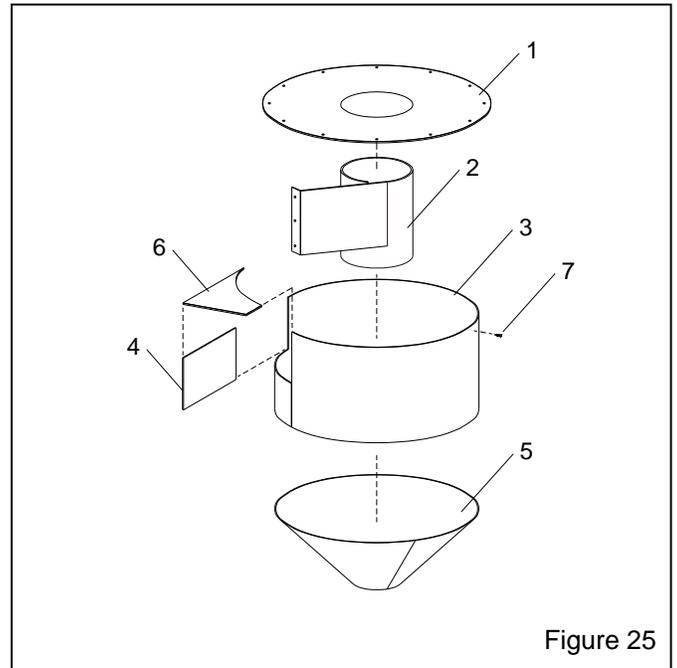

Figure 25
9.10 Rubber Liners, Option, Figure 25